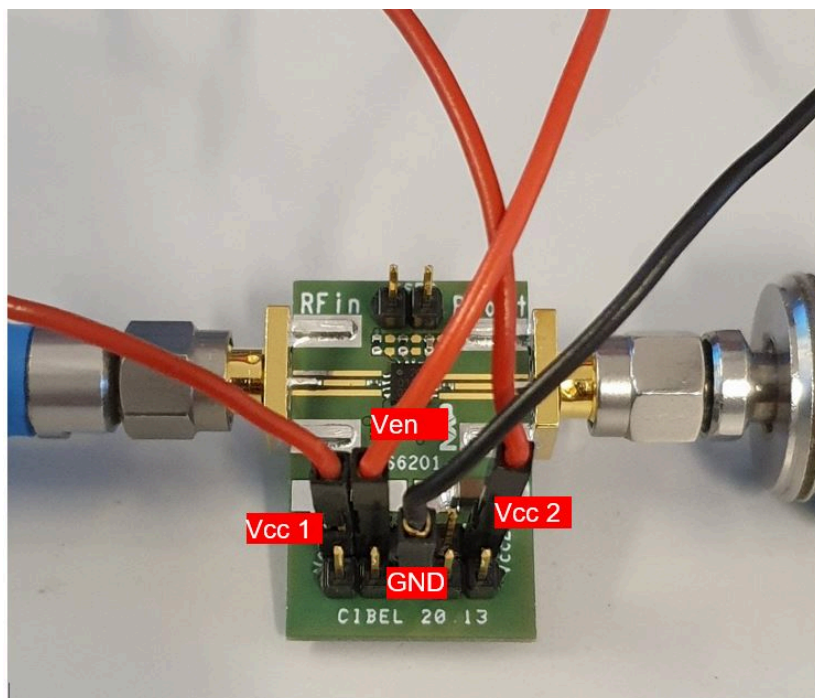

Figure 21. BTS6201U customer evaluation kit
1. Connect the EVB to a calibrated network analyzer see Figure 21, we advise the following settings for S-parameter measurements: